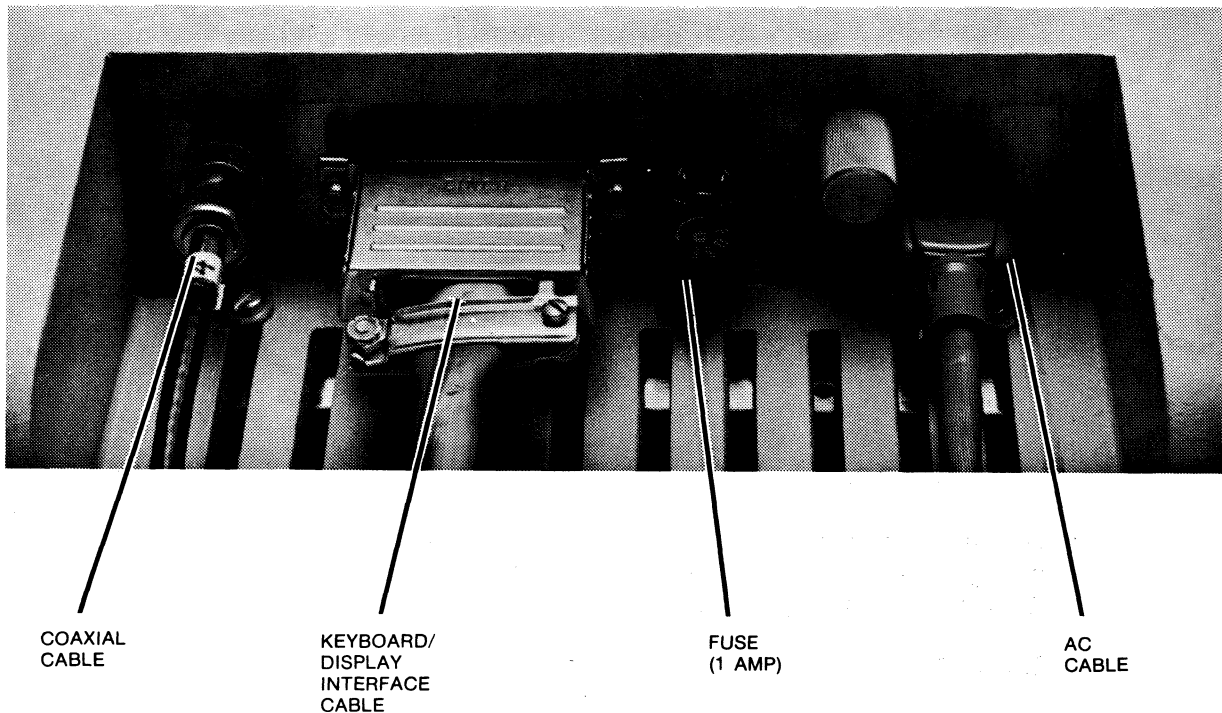

FIGURE 3-2. CABLE CONNECTIONS
2. Connect display to keyboard by attaching keyboard cable to back panel of display as illustrated in Figure 3-2.
3. Interconnect AC cord between connector at back of display (see Figure 3-2) and wall outlet.
5. Connect coaxial cable from the Control Unit to the Display Station as shown in Figure 3-2. Identify Display Station Coaxial Cable by tagging it at the Control Unit connector and at the Display Station.